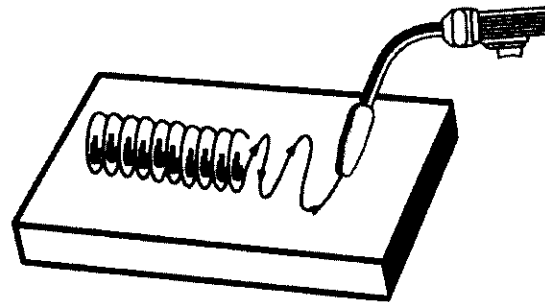

Figure 13. Weave Bead
- 2. The WEAVE BEAD** (Figure 13) is used when you want to deposit metal over a wider space than would be possible with a stringer bead. It is made by weaving from side to side while moving with the gun. It is best to hesitate momentarily at each side before weaving back the other way.